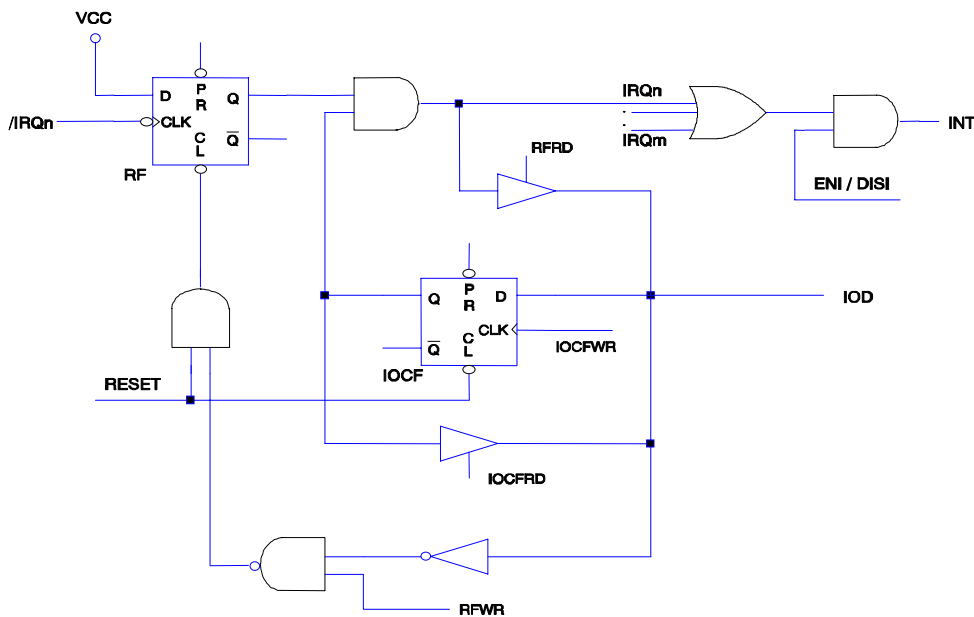

Fig. 12 Interrupt input circuit
The flag (except ICIF bit) in the Interrupt Status Register (RF) is set regardless of the status of its mask bit or the execution of ENI. Note that the outcome of RF will be the logic AND of RF and IOCF0 (refer to Fig.12), The RETI instruction ends the interrupt routine and enables the global interrupt (the execution of ENI).